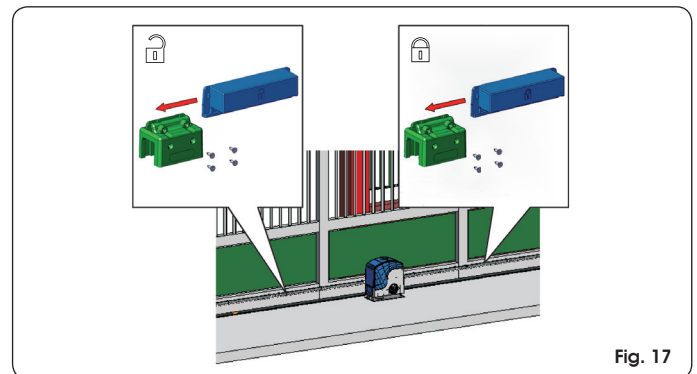

Fig. 17
The operator has a magnetic limit switch, which commands gate motion to stop when the magnet, which is secured to the upper part of the rack, activates the sensor. The magnets supplied with the operator are specifically polarised and activate only one of the sensor's contacts: the closing or opening contact. The magnet activating the open gate contact bears an open padlock symbol, and, vice versa, the magnet activating the closed gate contact bears the closed padlock symbol (see Fig. 17). Procedure for correct positioning of the two travel-limit magnets:
- ① Assemble the two magnets as indicated in the attached sheet and in fig. 17.
- ② Set the operator to manual mode operation - as per paragraph 8 - and power up the system.
- ③ Manually take the gate to opening position, leaving 4 cm from the travel limit mechanical stop.